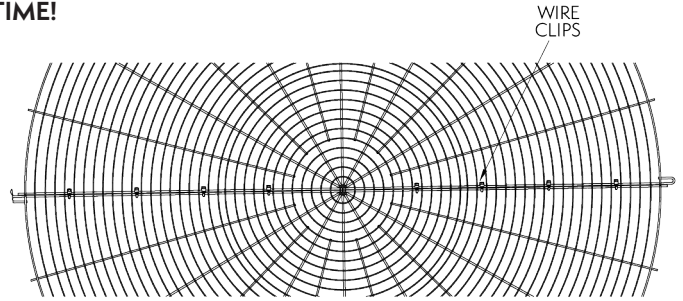
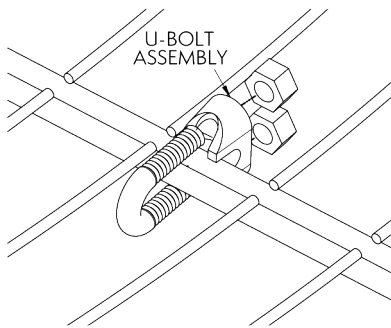

Figure 12 - Wire Clip Spacing
Figure 11 - Wire Clip Arrangement
1. Lay both halves of the fan screen on the ground. Join the two screen halves with wire clips (**Figure 11**). There should be 4 wire clips on each side of the fan screen for 12' (3.6m) and 14' (4.2m) wide units. Space the wire clips evenly across the radius of the fan screen as shown in **Figure 12**.